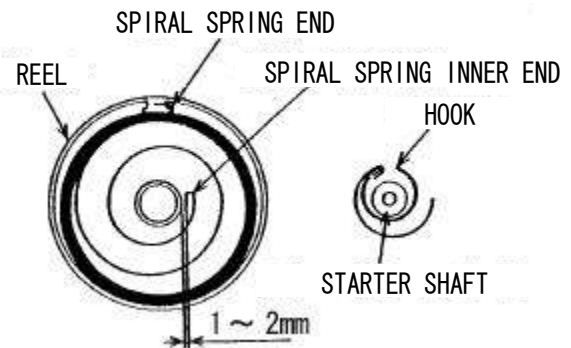
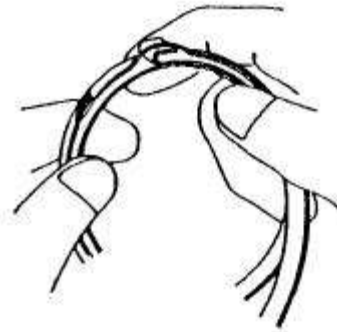

Fig. 6-4
Fig. 6-6
(2) Make sure that the SPIRAL SPRING is fit completely in the spring groove of the REEL. Form the SPRING end to have 1 to 2 mm clearance between the SPIRAL SPRING inner end and REEL BUSH so that the STARTER SHAFT can hook on the HOOK securely as shown in Fig. 6-4. The SPIRAL SPRING inner portion (about 10cm-long from the end) can be charged in shape.
Make a ring having a smaller diameter than that of the SPIRAL SPRING housing by a thin wire. Hook the SPIRAL SPRING at its outer end on the ring to wind it as shown in Fig.6-6, and fit it into the SPIRAL SPRING groove. Press the SPIRAL SPRING with your finger to prevent it from coming away and remove the ring slowly. The ring can easily be removed by prying it with the tip of a screwdriver. See Fig.6-4 for how to fit the SPIRAL SPRING correctly into the groove.